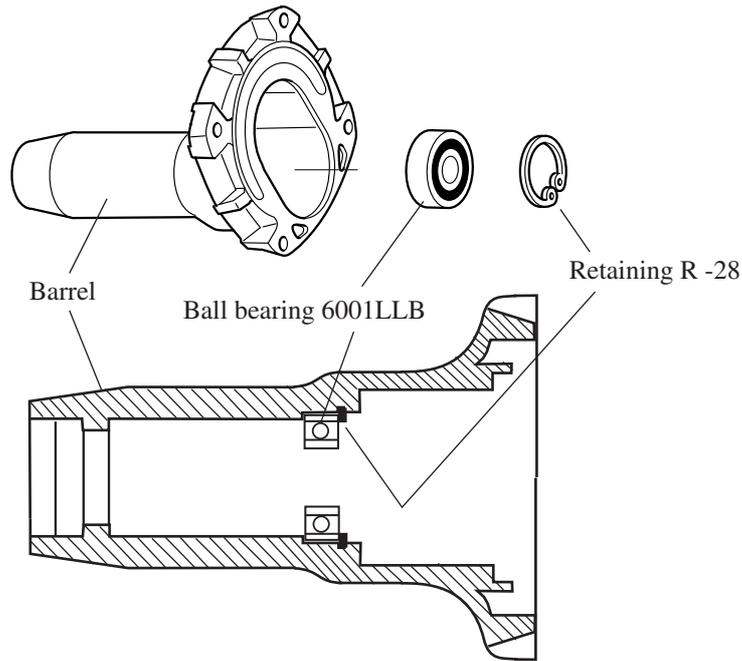

Fig. 7
(2) Put ball bearing 6001LLB and retaining R -28 into barrel as illustrated in Fig. 7.